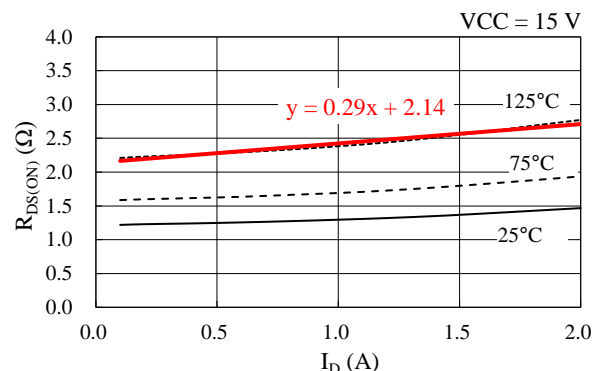

Figure 13-1. Linear Approximate Equation of  $R_{DS(ON)}$  vs.  $I_D$  Curve
Steady-state loss in a power MOSFET can be computed by using the  $R_{DS(ON)}$  vs.  $I_D$  curves, listed in Section 14.3.1. As expressed by the curves in Figure 13-1, linear approximations at a range the  $I_D$  is actually used are obtained by:  $R_{DS(ON)} = \alpha \times I_D + \beta$ . The values gained by the above calculation are then applied as parameters in Equation (4), below. Hence, the equation to obtain the power MOSFET steady-state loss,  $P_{RON}$ , is: